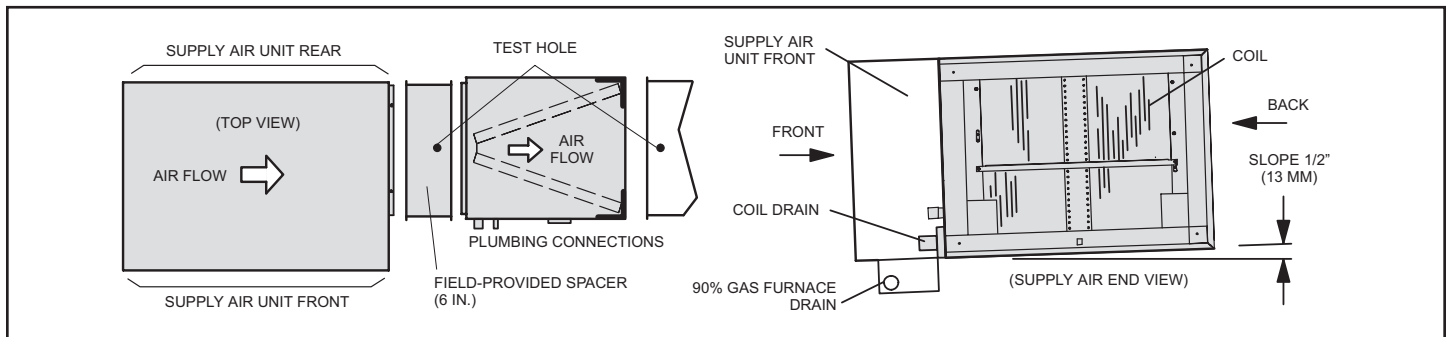

Figure 5. Right-Hand Air Discharge with Spacer
2. **Right-Hand Air Discharge with Field-Provided Spacer** — The coil must have a 1/2" slope from the rear of the cabinet to the drain. Position the coil in the left-to-right configuration on the service access side of the furnace. Insert a field-provided spacer between the furnace and the coil. Use field-provided screws to secure the coil casing, spacer and the furnace together. The spacer should be long enough to allow room for proper installation (approximately 6 inches minimum). See Figure 5.